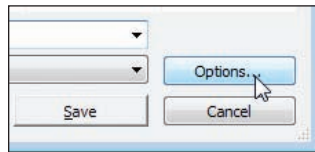

FIGURE 1.51 The Options button in the Save As dialog lets you choose how the file is saved.
2. In the Save As dialog, click the Options button in the lower-right corner (see Figure 1.51).